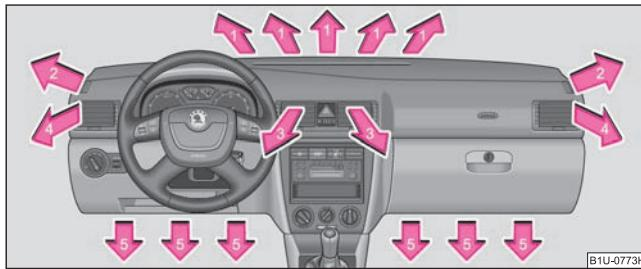
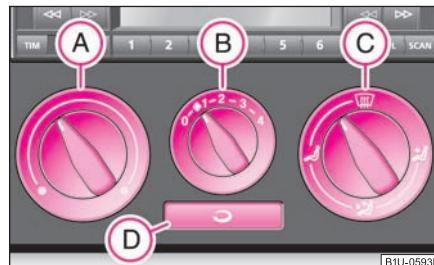

Fig. 94 Air outlet vents
Fig. 95 Heating: Control elements
You can set the air supply to the individual air outlet vents using the control **(C)** \Rightarrow fig. 95. Air outlet vents **3** and **4** \Rightarrow fig. 94 can also be opened or closed individually.
Unwarmed or cooled air will flow out of the opened air outlet vents according to the setting of the control dial **(A)** \Rightarrow fig. 95 and according to outer atmospheric conditions. ■
- Turn the control dial **(A)** \Rightarrow fig. 95 to the right in order to increase the temperature.
- Press the button  - the warning light lights up in the button \Rightarrow page 77, fig. 95.